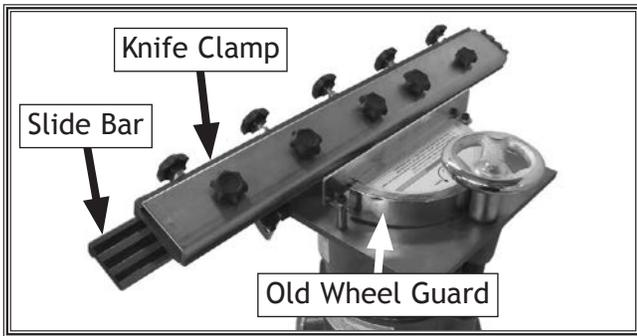

Figure 1. Model W1834 with old wheel guard installed.
1. Remove knife clamp from slide bar (see **Figure 1**), or if applicable, remove stationary clamp.